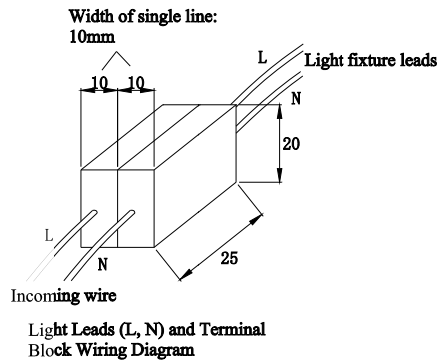

Figure 3
3. If the driver of the lamp comes with a lead wire, and this connecting lead wire needs to be connected to an independent terminal block (refer to the schematic diagram in Figure 3 for wiring), each path should be connected. The size of the wire terminal block should not be less than 10x20x25mm (pay attention to waterproof treatment at the wiring junction).